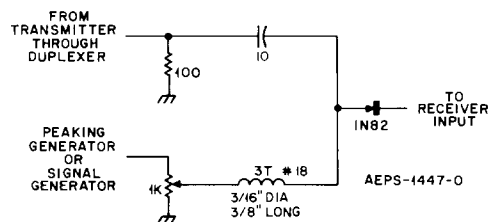

Figure 4. Mixer Circuit
- Mixer circuit constructed as shown in Figure 4.
Alignment of the duplexers can be simplified by using the mixer circuit shown in Figure 4. The mixer receives inputs from the transmitter and a low frequency source. The outputs from the mixer are frequencies above and below the transmitter frequency at separations equal to the output of the low frequency generator.